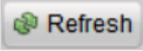

Figure 3-2 Search Online Devices
- Use OMNI Finder, a software tool which can automatically detect network camera on the LAN and list device information such as IP address, subnet mask, port number, device serial number, device version, etc., as shown in Figure 3.2 below.